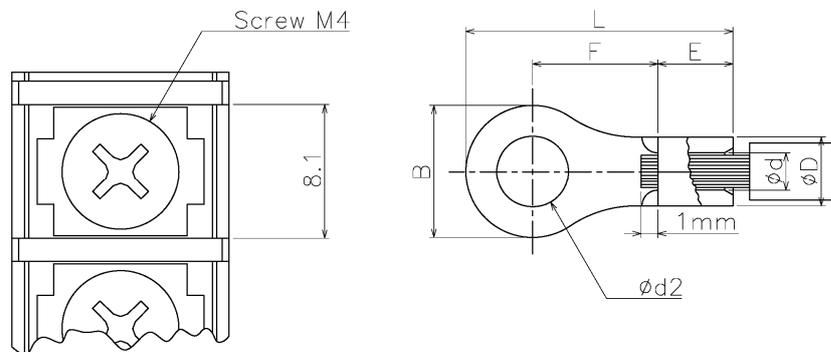

Figure 2.6b Terminal lug example (non-insulated ring terminal : JIS C 2805)
- The width of the connection facilities for a terminal lug is 8.1mm and the fastener for a terminal lug is M4 screw, therefore the dimensions should be $B < 8.1\text{mm}$ and $d2 > 4\text{mm}$ in case of ring terminal as Figure 2.6b
- Stripping length depends on the terminal lug type and shape. Please follow the instructions for each terminal lug. Figure 2.6b shows an example in case of non-insulated ring terminal (JIS C 2805)